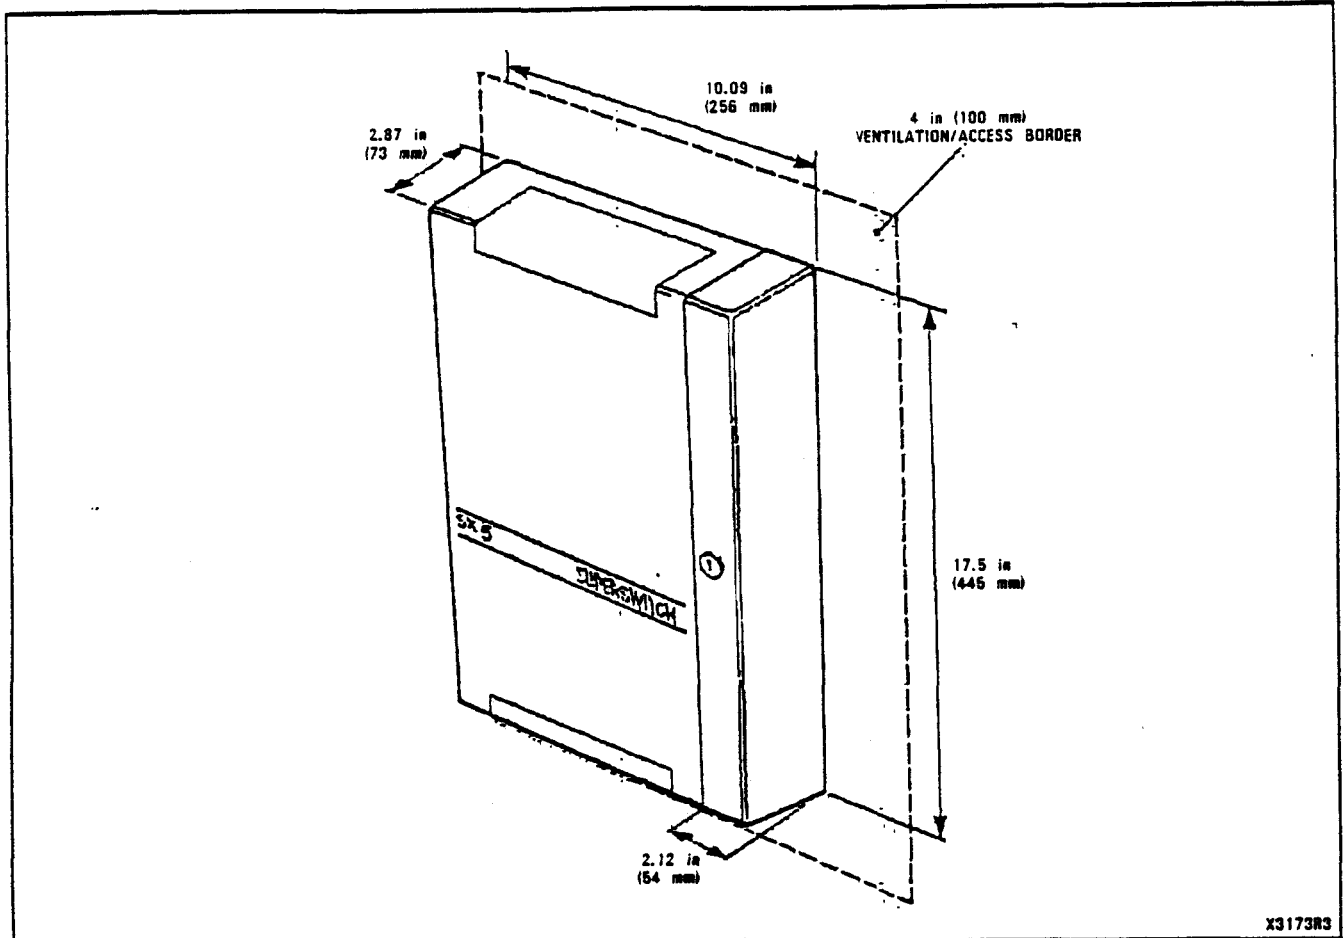

Fig. 3-1 SX-5 Dimensions
3.01 The SX-5 consists of a single enclosure, containing the printed circuit cards, with a lockable access door on the right-hand side. The overall dimensions of the system are shown in Fig. 3-1. The total weight of the system is 12 lbs. (5.5 kg). All connections to the system enter at the bottom of the SX-5 access door and are terminated directly on the terminals at the right-hand edge of the Main Card.